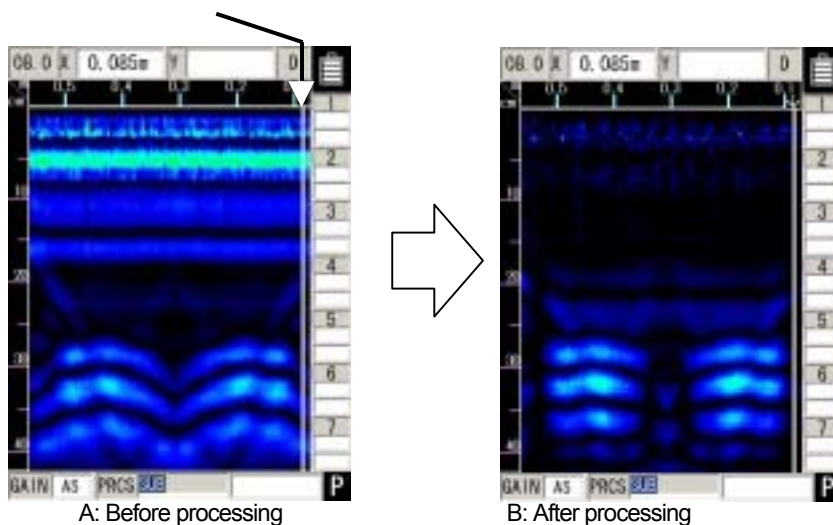

Figure 3-15 Display before/after Deduction Processing
- c) Use the cursor keys **◀▶** to move the cursor to a location where there is not a object to be probed in the scan test results. (See Figure 3-15 A-(1))
At this time, the mark "↓" is displayed at the previous cursor position. (See Figure 3-15 B.)